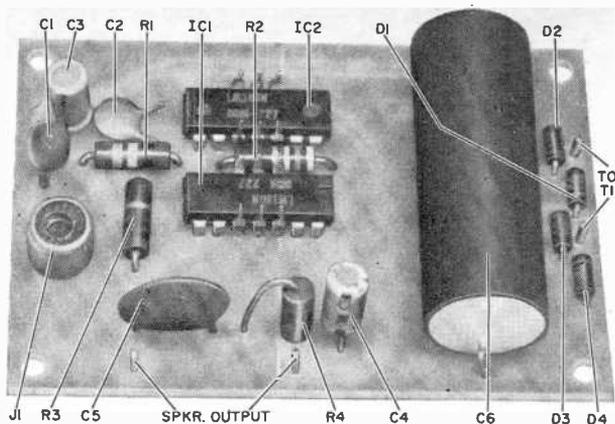

Fig. 3. PC foil pattern and photo of parts layout.
**Construction.** The complete amplifier, minus power transformer *T1*, can be assembled on a printed circuit board, the etching and drilling guide and component placement for which are shown in Fig. 3. Note the large ground areas used for shielding and heat sinking. If the amplifier is to be used with a 12-volt dc power supply, additional heat sinking is not required, and pins 3, 4, 5, 10, 11, and 12 of both IC's should be soldered to the PC board.